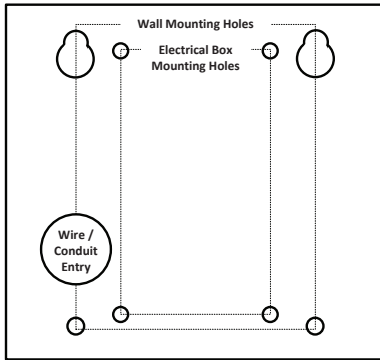

Figure 1
1. Using the backplate as a template, mark and drill the 4 mounting holes and the wire or conduit entry hole (see Figure 1). Insert the (4) 1/4 x 1" wall anchors, then partially install the top two #10 x 1" screws.